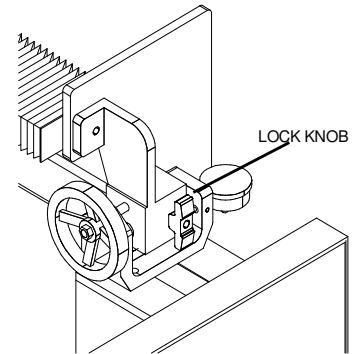

FIG. 22
2. Check the right side adjuster. The dial indicator should read .500. If not, loosen the lock tee knob and, adjust the handwheel until the dial indicator reads .500 and lock the tee knob. See FIG. 22.